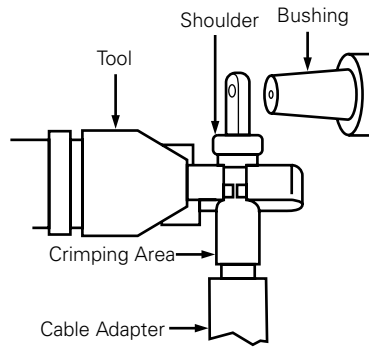

Figure 22. Line illustration of crimping area.
- Make first crimp 1/2" (13 mm) below shoulder of compression connector. (Refer to Figure 22.)